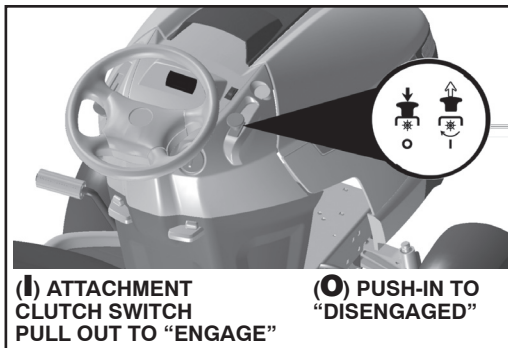

FIG. 5
- To stop mower blades, push attachment clutch switch in to disengaged position (o) (See Fig. 5).